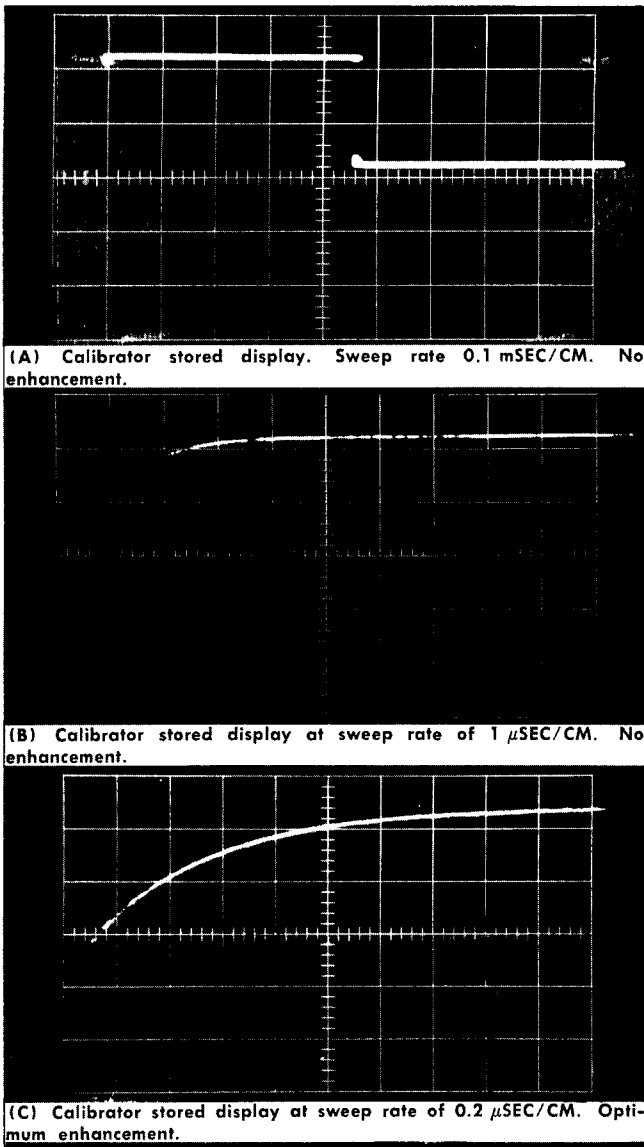

Fig. 2-14. Enhanced writing rate through the use of enhance mode.
9. Turn the ENHANCE MODE switch to FULL and slowly turn the ENHANCE LEVEL control clockwise. Increased writing speed will be apparent (Fig. 2-14).